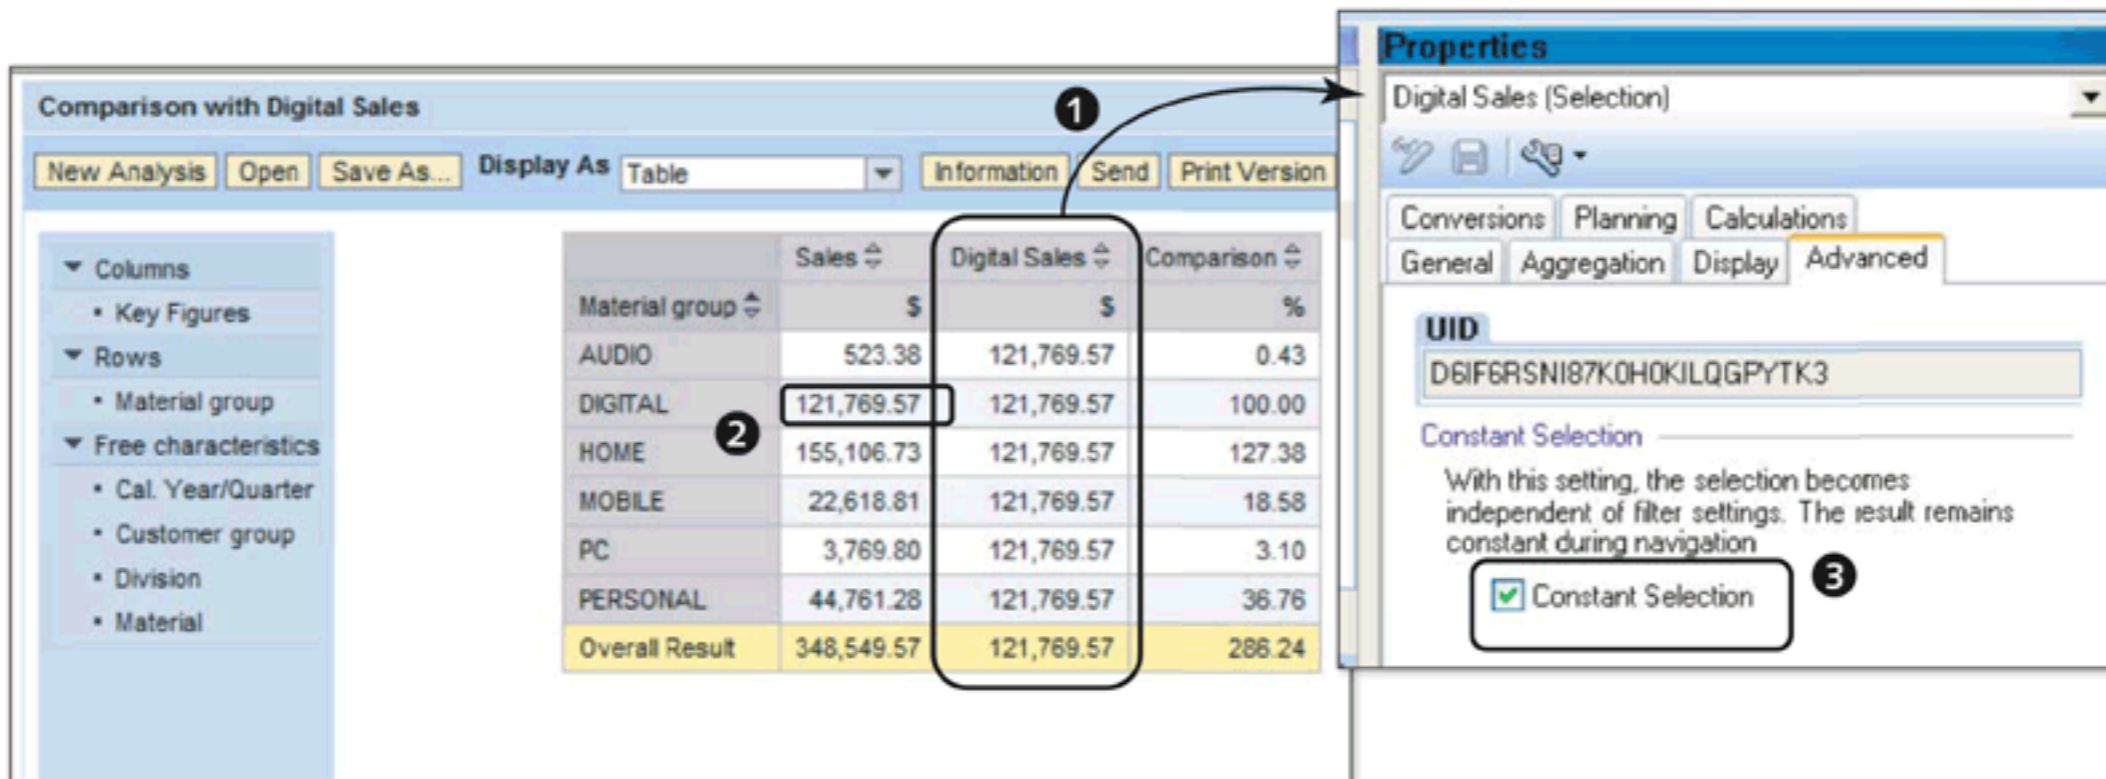

Figure 9.74 Constant Selection
The CONSTANT SELECTION setting on the ADVANCED tab of a key figure query element (③ of Figure 9.74) is available only for elements of selections and RKF. It is used if you want to keep the characteristic selections mentioned in the definition of the selection or RKF as constant. This means that during the query execution and navigation, the restrictions applied to the key figure do not change.
This setting is particularly important if you want to use a key figure value as a fixed reference for comparison with other key figures. Take an example where the business analysts at ABCD Corp. want to compare the sales for different material groups with respect to the sales for MATERIAL GROUP = DIGITAL. The report would look like the screen shown in Figure 9.74. As you can see, the DIGITAL SALES column has a constant value for all of the rows (① of Figure 9.74), and this value is nothing but the sales value where MATERIAL GROUP = DIGITAL (②). As a result, the comparison can now easily be achieved using a simple formula.